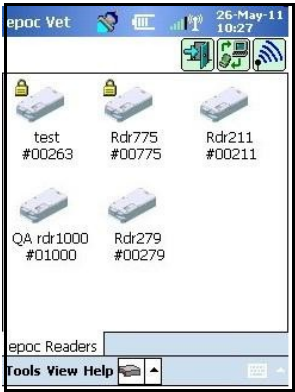

Figure 3
3. While maintaining downward pressure, use the index finger of your other hand to steadily depress the Syringe Plunger with a single, smooth, continuous motion until prompted to stop (Figure 3).